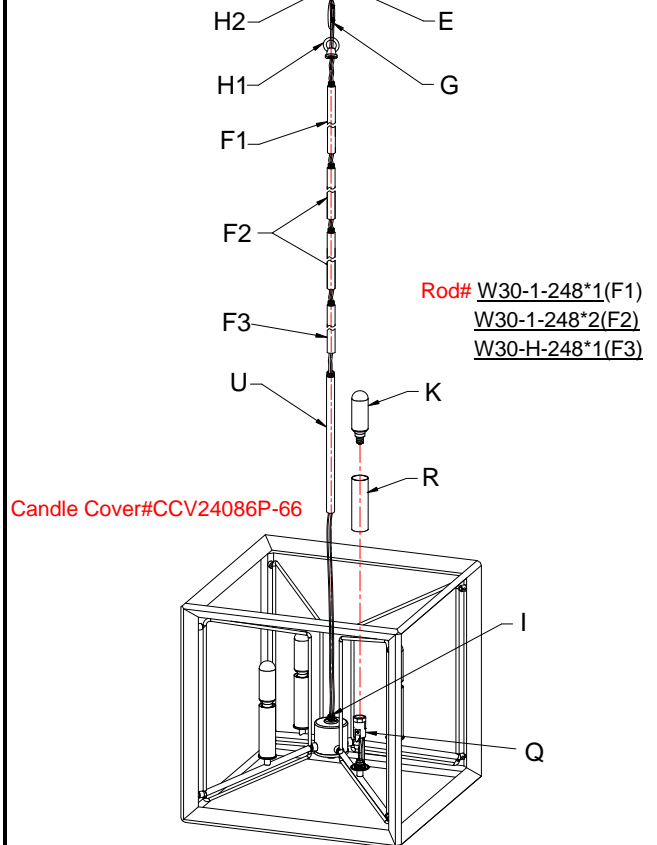

Fig. 3
CONNECTING THE WIRES (Fig. 3)
8. At this point, connect the electrical wires as shown in **fig 3**, making sure that all wire connectors are secured. If your outlet has a ground wire (green or bare copper), connect the fixture's ground wire to it. Otherwise, connect the fixture's ground wire directly to the circular strap (B) using the green screw provided.
9. Tuck the wire connectors neatly into the ceiling Junction Box and then raise the canopy (D) all the way to the ceiling.